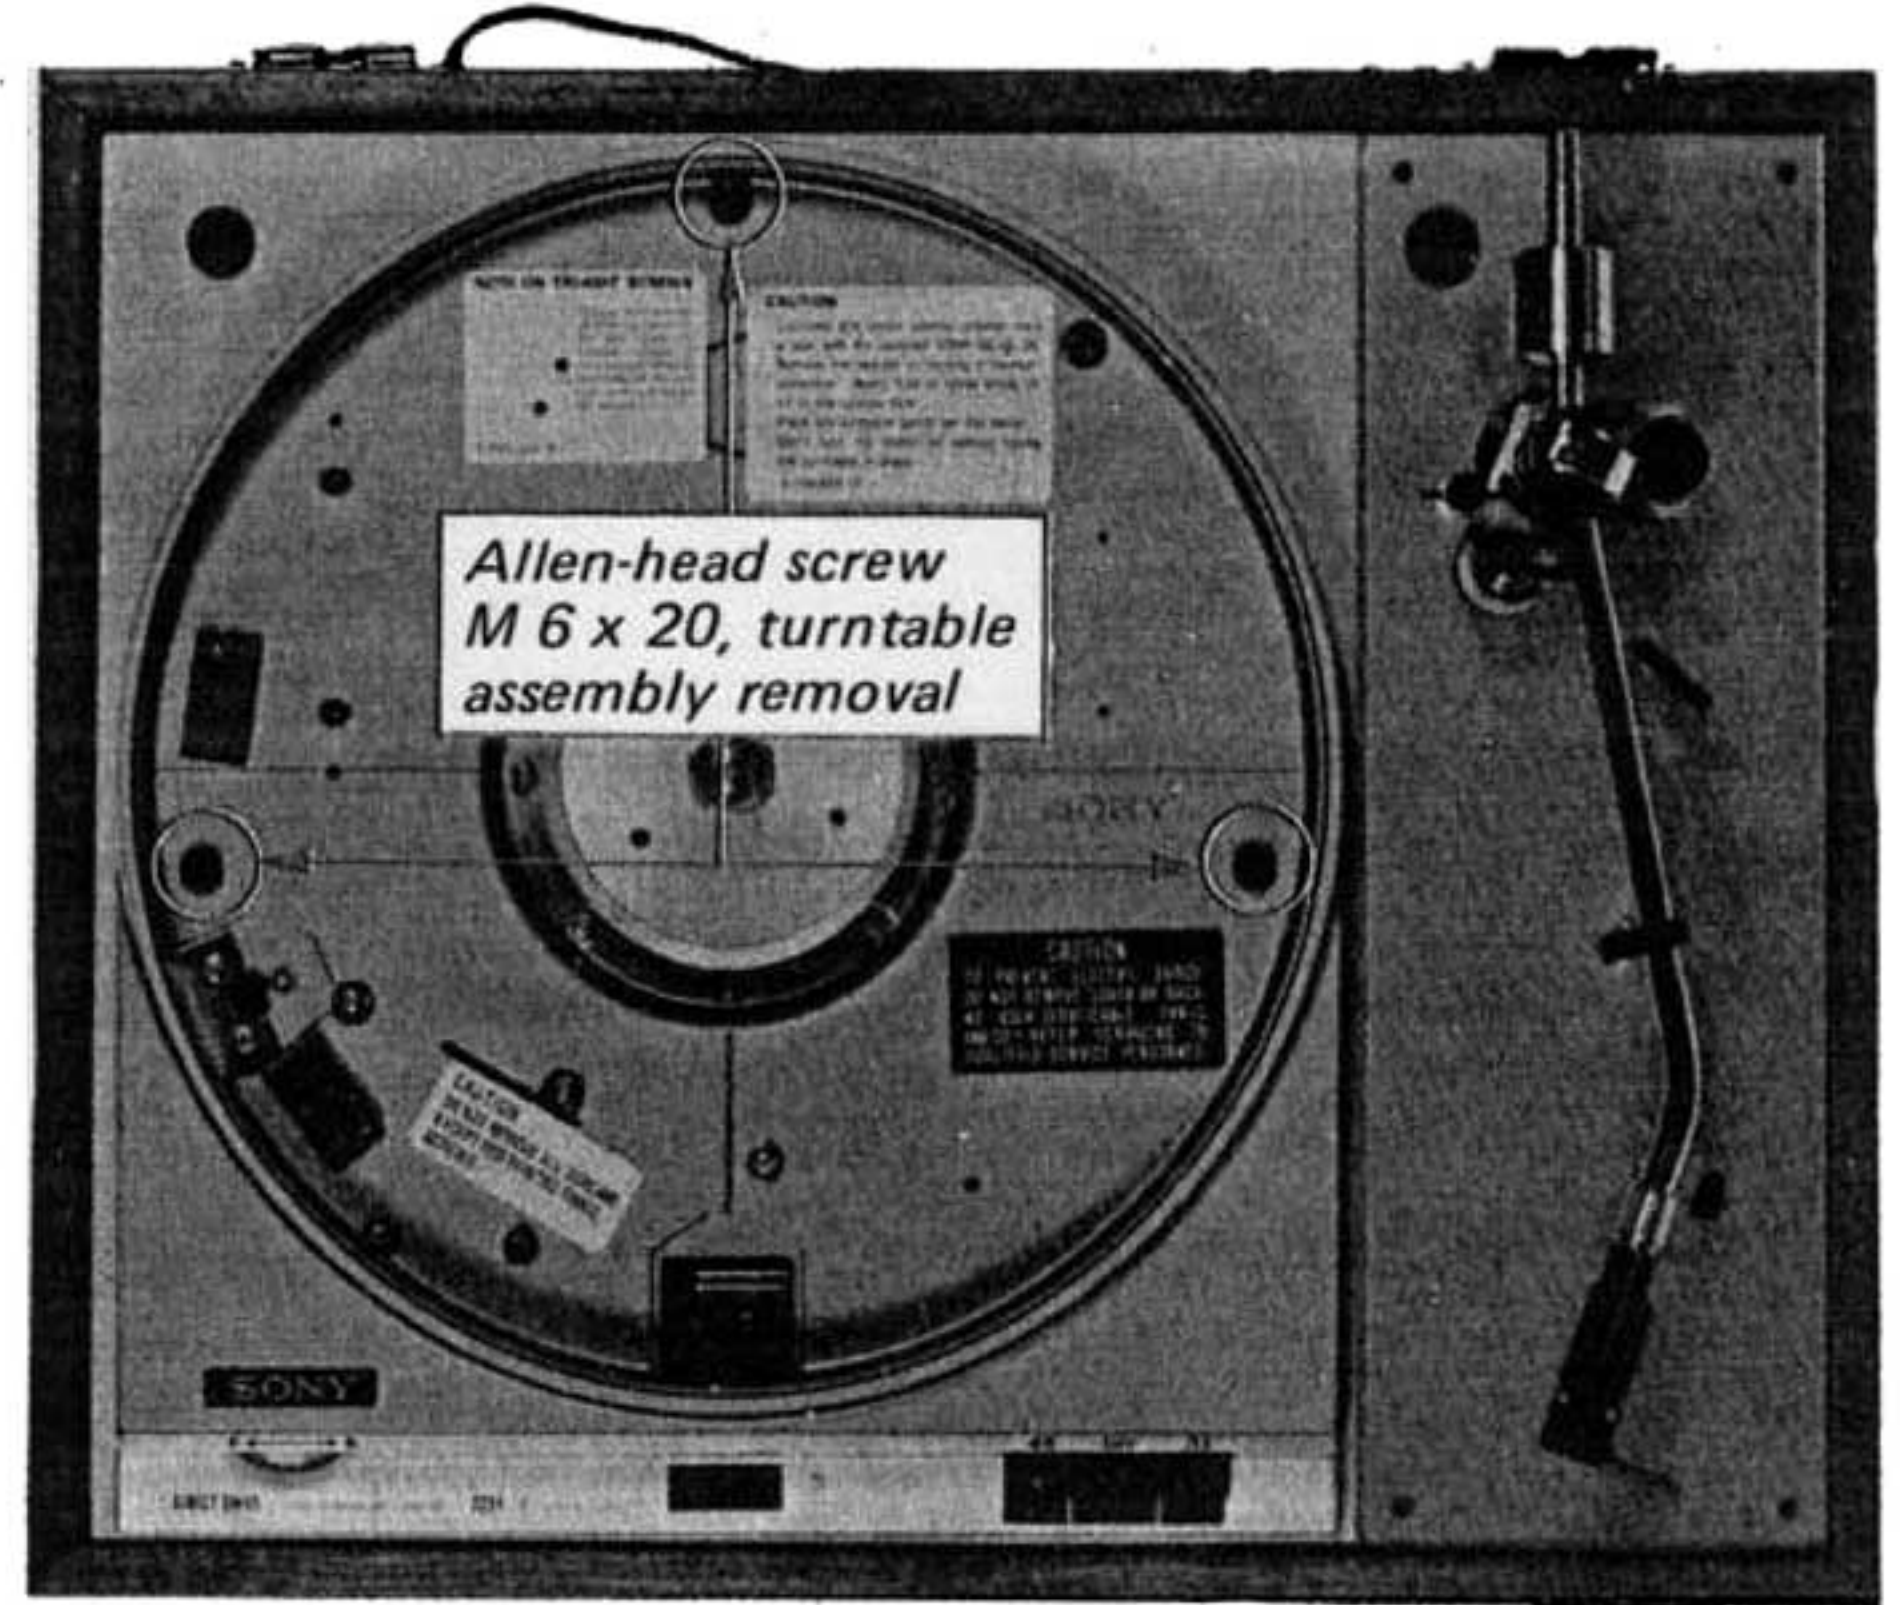

Fig. 2-3. Turntable assembly removal
3. Remove the three allen-head screws (M 6 x 20). See Fig. 2-3. This frees turntable assembly.